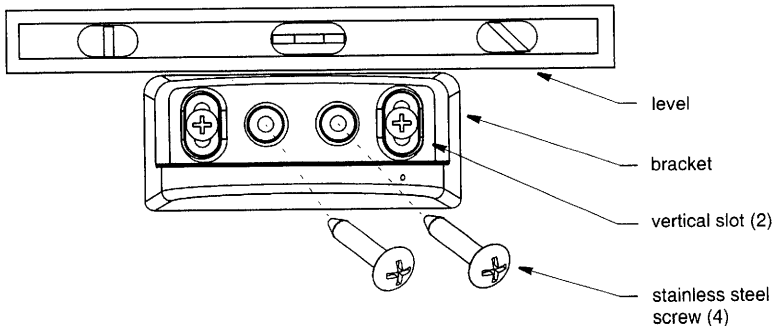

Figure 1. Mounting the bracket
1. At the selected mounting location, draw a level line using a torpedo level (see Figure 1).